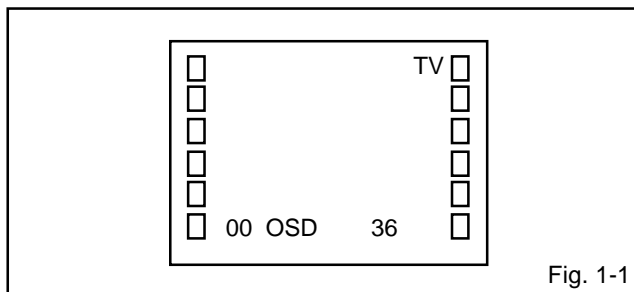

Fig. 1-1
Press the VOL. DOWN button on the set and the Channel button (9) on the remote control for more than 2 seconds to appear the adjustment mode on the screen as shown in Fig. 1-1.
3. Activate the adjustment mode display of Fig. 1-1 and press the channel button (01) on the remote control to select "CUT OFF".
4. Activate the adjustment mode display of Fig. 1-1 and press the channel button (12) on the remote control to select "R CUT OFF".
3. Activate the adjustment mode display of Fig. 1-1 and press the channel button (03) on the remote control to select "H.PHAS".